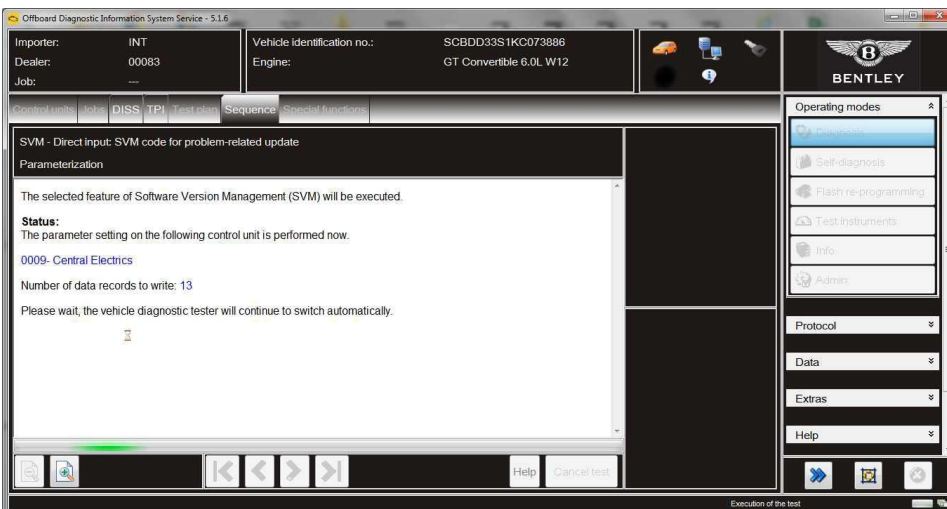

Figure 4
6. The parameters of the relevant control units will now be parametrised (Figure 4).